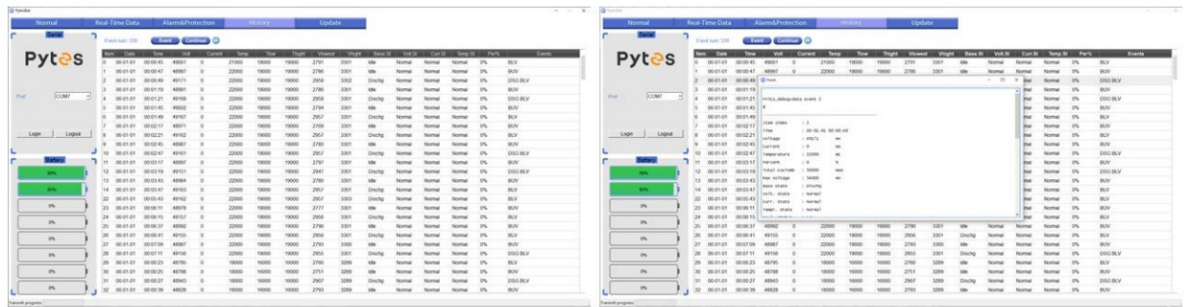

Figure 8
9. History (Figure 8)
- As shown in Figure 8, double-click any historical event to view the detailed information of it.